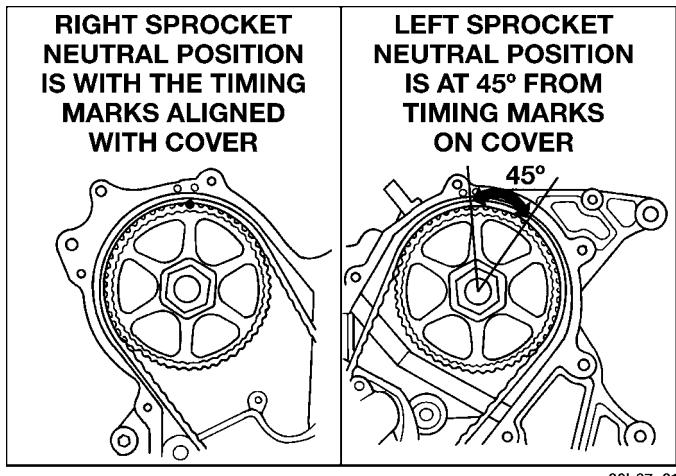
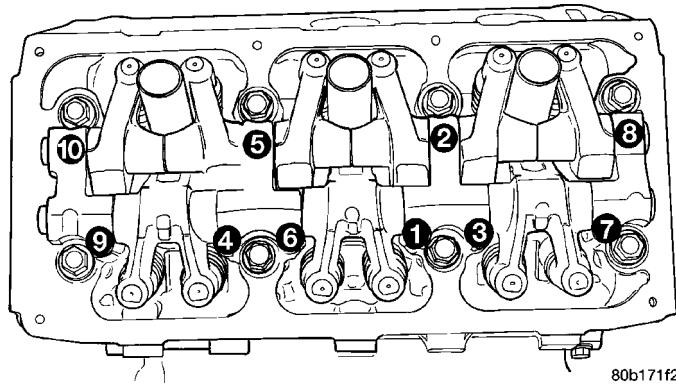

Fig. 44 Camshaft Sprockets Neutral Position
Fig. 45 Rocker Arm and Shaft Assembly Tightening Sequence
(1) Rotate camshafts to the position shown in (Fig. 44). With the camshafts in these positions the lobes are in a neutral position (no load to the valve). This will allow the rocker arm shaft assembly to be tightened into position with little or no valve spring load on it.
(2) Install the rocker arm and shaft assembly making sure that the identification marks face toward the front of engine for left head and toward the rear of the engine for right head.
(3) Tighten rocker arm/shaft assembly bolts in sequence to 31 N·m (275 in. lbs.) (Fig. 45).
(4) Install cylinder head covers. (Refer to 9 - ENGINE/CYLINDER HEAD/CYLINDER HEAD COVER(S) - INSTALLATION)